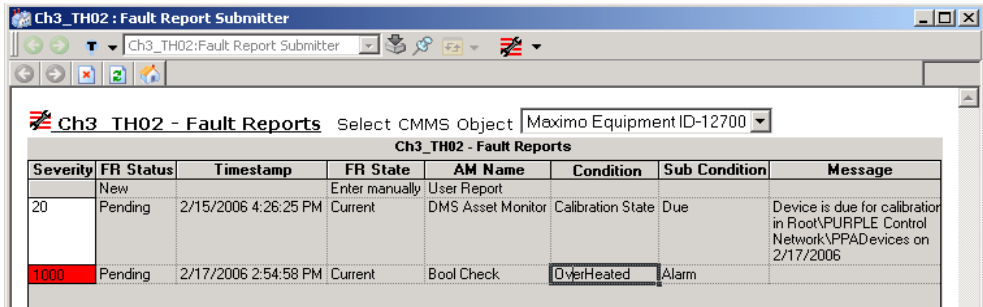

Figure 68. Fault Report Viewer
**Fault Report Viewer/Submit Fault Report.** These functions are made possible by the Fault Report Submitter. When an Asset Monitor generates an ACD, a Fault Report is created automatically. The Fault Report Viewer (Figure 68) makes it possible to see all fault reports for a selected object.